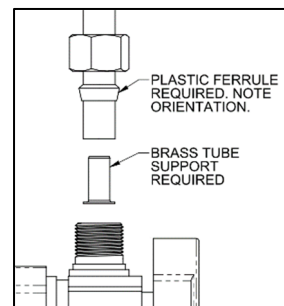

Figure 2: Supply Valve Connection
4. With the cooler laying on its back, remove the (4) screws holding the skirt to the bottom of the frame. Then remove the skirt by sliding the skirt away from the cooler.
7. Secure both the lower right and lower left ends of the cooler to the wall using at least (2) 1/4" or 3/8" structural screws. These screws should go through the holes which are approximately 5" from the bottom of the cooler. Washers may be required.
- b. Install the compression nut (included with your supply valve), followed by the plastic ferrule (supplied), and the brass tube support (supplied) onto the inlet line. Note the correct orientation of the plastic ferrule, as shown in Figure 2. Do not use the brass ferrule included with your supply valve.